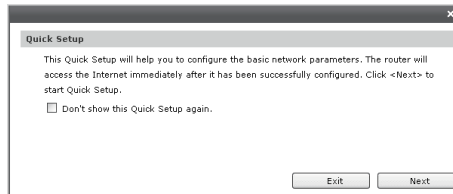

Figure 5-4 Quick Setup
3. After a successful login, the **Quick Setup** screen will pop up as the Figure 5-4 shown. If it does not prompt, you can click the **Quick Setup** on the left of the main menu. Then click **Next**.